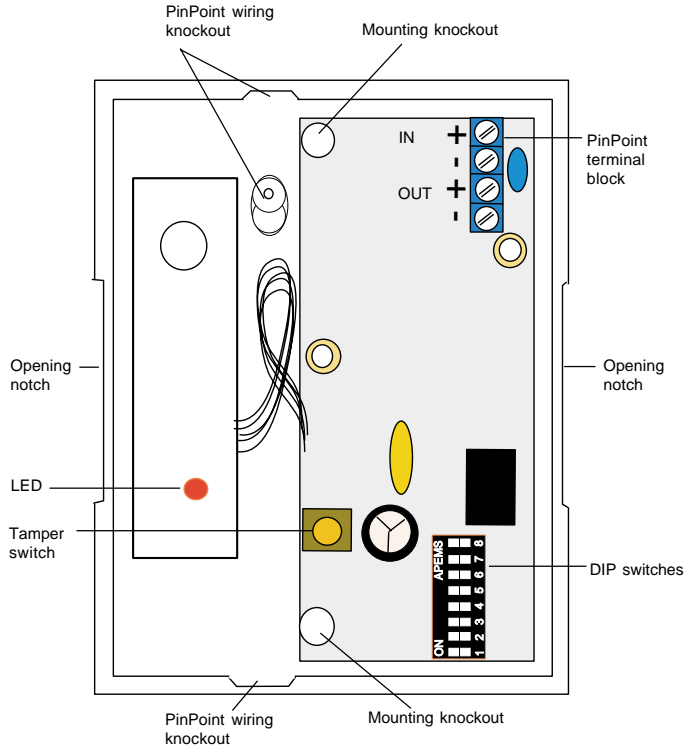

Figure 3. Base and circuit board
2. Open the unit by gently inserting a screwdriver in the hidden opening notches that are located under the lid in the middle of the long sides of the sensor. See Figure 3.
3. Set the PinPoint address DIP switches. See Figure 3.
4. Remove the appropriate wiring and mounting knockout holes (use the mounting screws to remove the mounting knockouts). See Figure 3.
7. Strip 1/4 inch (6.4mm) of insulation from each PinPoint wire. Connect the wiring to the appropriate screw terminals and tighten the screws. See Figure 3.